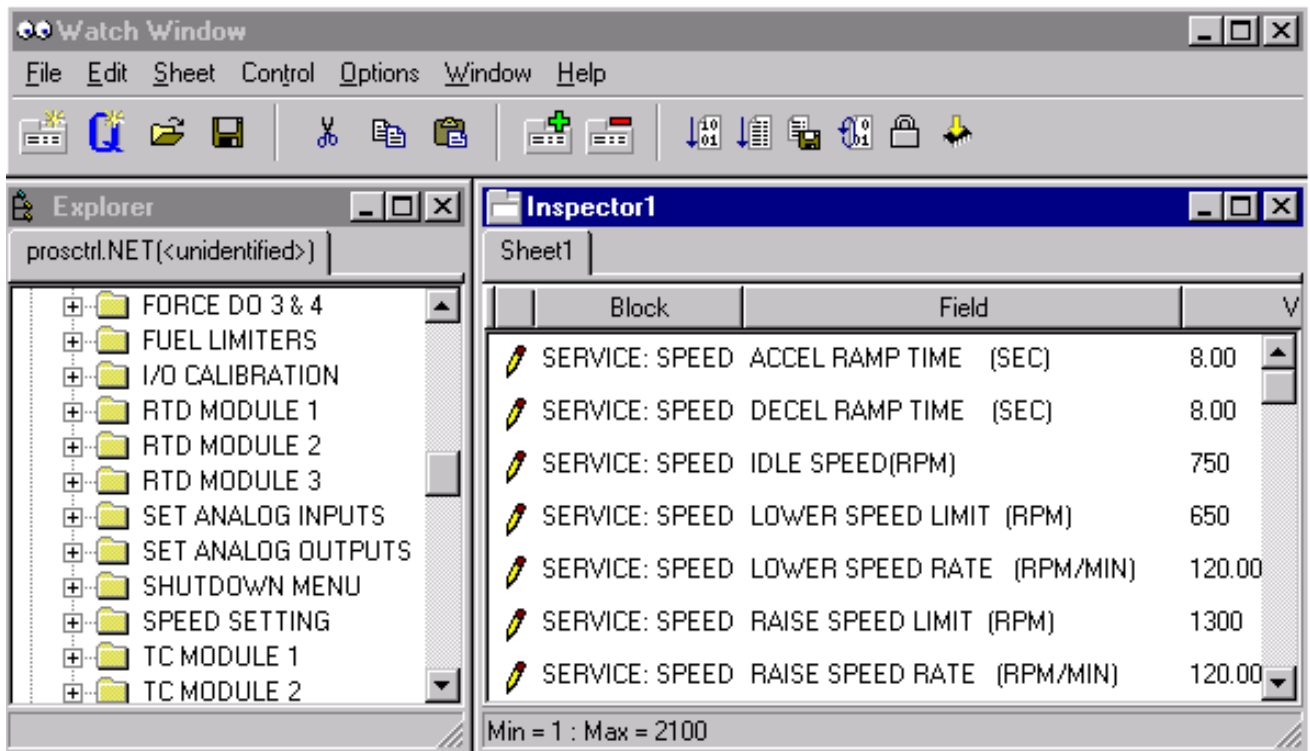
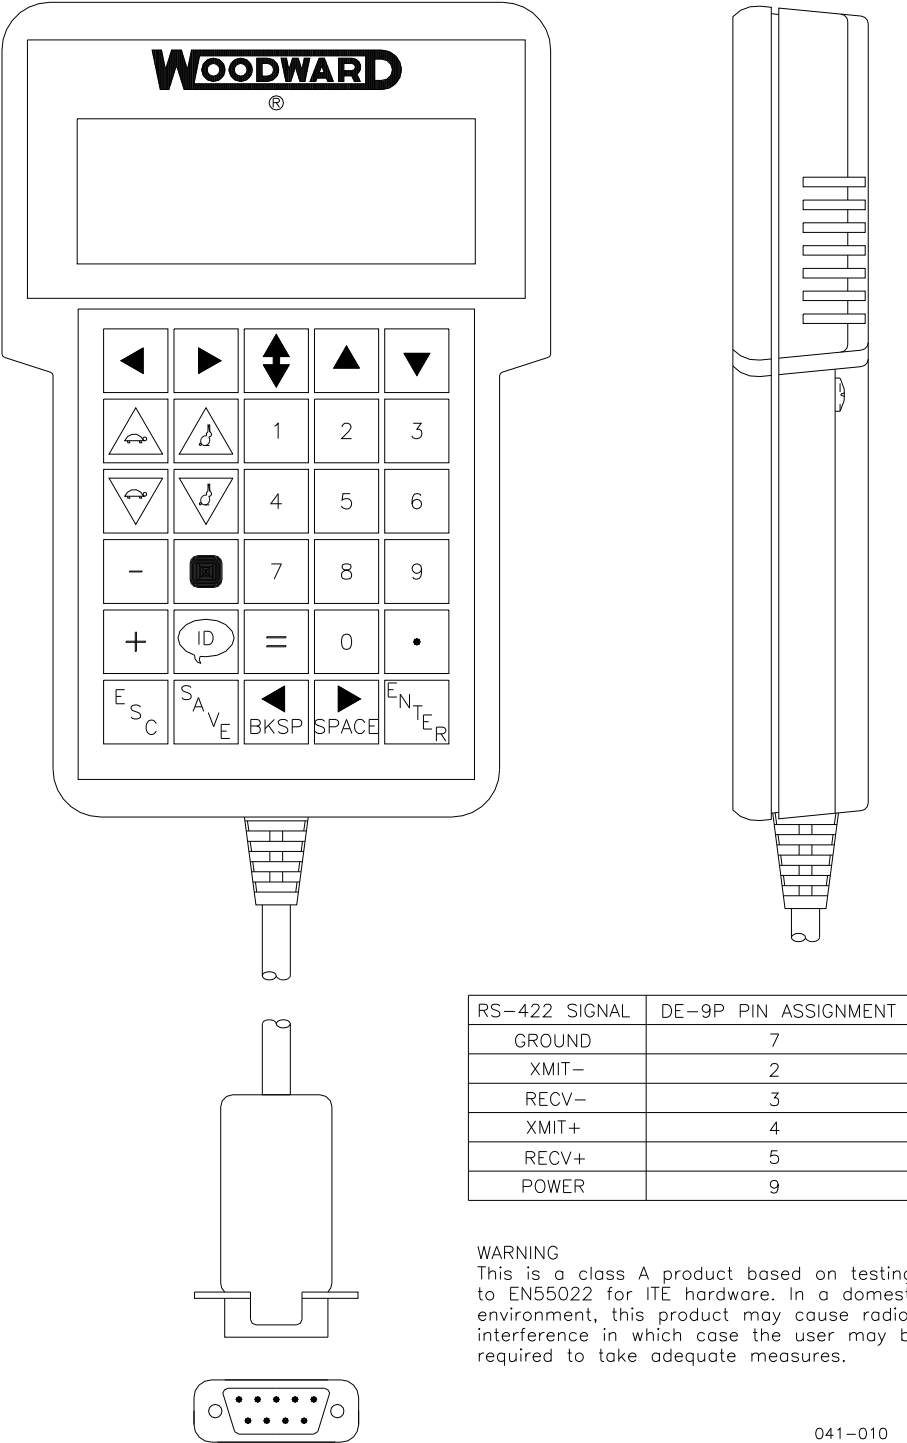

Figure 1-2. Watch Window Display
Figure 1-3. Hand Held Programmer
- ServLink Watch Window (Figure 1-2) or an optional hand held terminal (Figure 1-3) for adjusting control parameters
PC based Watch Window software (part number 8923-932) and a Hand Held Programmer (part number 9907-205) are used for adjusting software parameters of the 723PLUS control, including the software options. The PC cable or Hand Held Programmer plug into communication port J1 of the control (see manual 26007 *Getting Started* for using the Watch Window software). [Hand Held Programmer part number 9905-292 can also be used.] See Figures 1-2 and 1-3.